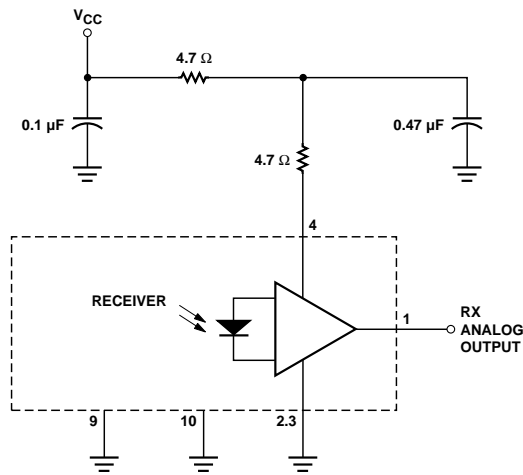

Figure 9. Recommended Power Supply Filter Circuit.
- The signal output is an emitter follower, which does not reject noise in the power supply. The power supply must be filtered as in Figure 9.